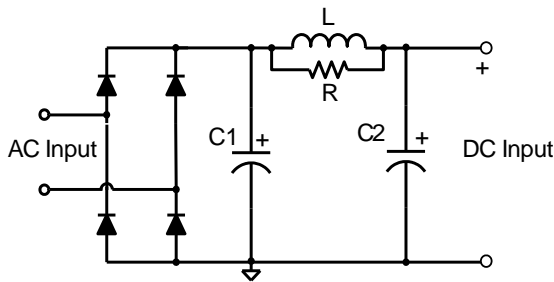

Figure 10: Input Filter
Figure 10 shows the typical input filter of an application with a low power range. The bulk capacitors (C1 and C2) filter the rectified AC input. Usually, C1 and C2 are set at $2\mu\text{F}/\text{W}$ to $3\mu\text{F}/\text{W}$ for a universal input condition. For 230V_{AC} single-range applications, cut the capacitor values in half. The inductor (L) forms a pi (π) filter with C1 and C2 to restrain the differential mode EMI noise. The resistor (R) in parallel with L dampens the mid-frequency band EMI noise, if necessary. Normally, R is $1\text{k}\Omega$ to $10\text{k}\Omega$.